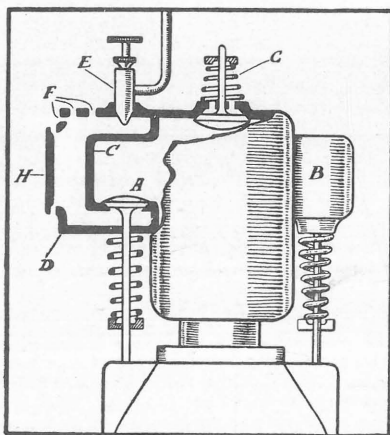

Fig. 6.
Fig. 6 shows a type of vaporizer that is sometimes used on fishing-boat engines. It is not a copy of any particular make, but gives an idea of the general form that several makes take. We have the cylinder of an ordinary four-stroke engine, the exhaust valve being marked B. On the inlet valve side (A) the cylinder is supposed to be broken away, showing the inside. The inlet valve pocket (C) is enclosed in an outer case (D). A hand-set needle valve (E) supplies paraffin to the inside of the case (D), which really is the vaporizing chamber. Holes (F) allow air to enter the vaporizer. When the engine is running the valve pocket (C) becomes heated by the explosions, and the paraffin